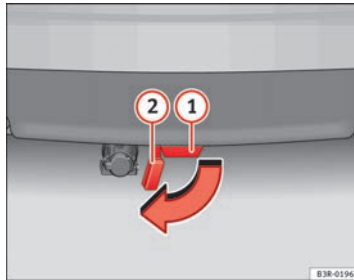

Fig. 155 Rear bumper:
- Remove the cover piece (2) ⇒ Fig. 155 on the mounting fixture (1) below the bumper as far as it will go. The cover piece is held automatically in the open position.